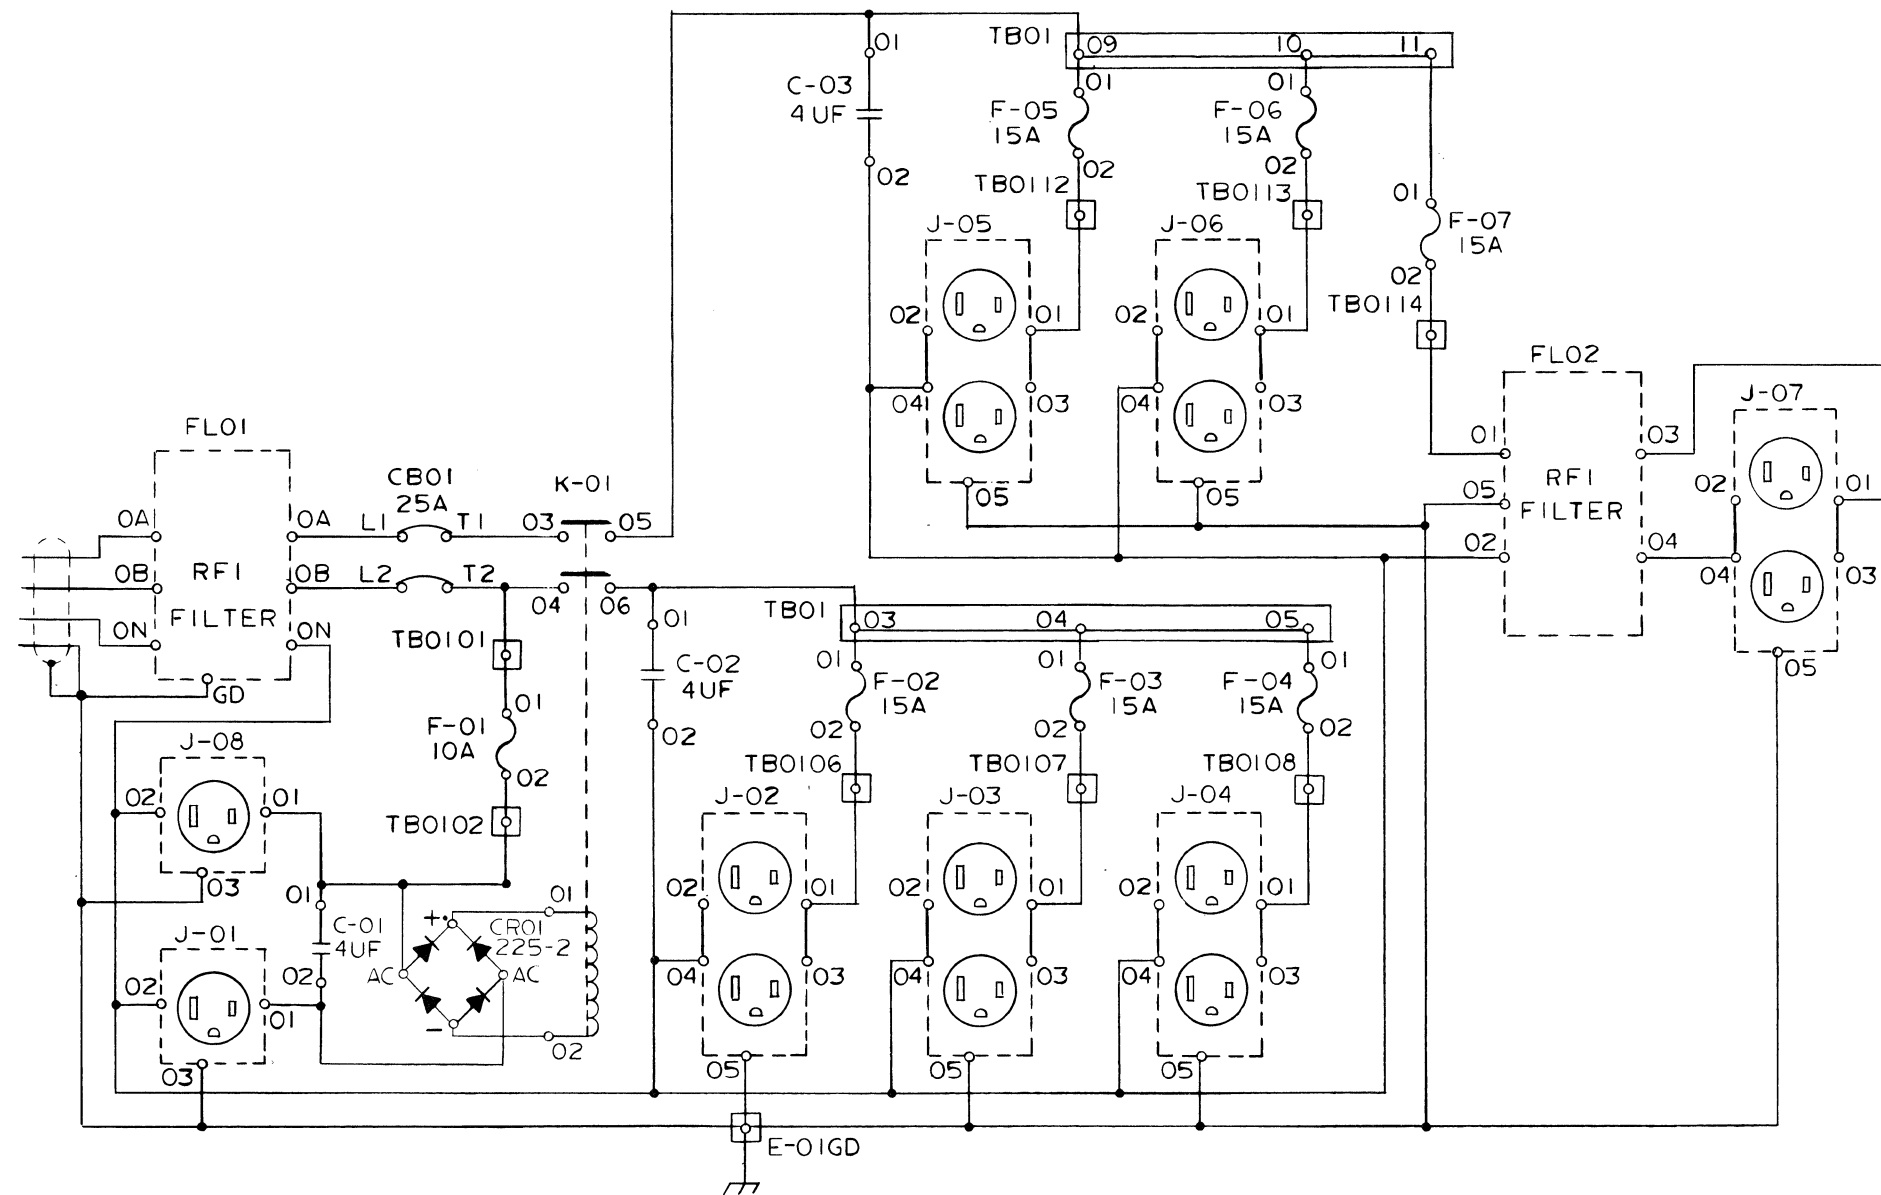

Figure 5-24 Power Distribution Unit, BPDU060A Schematic 60-Hz (60128468)
- Figure 5-24 Power Distribution Unit BPDU060A Schematic - 60 Hz (60128468)